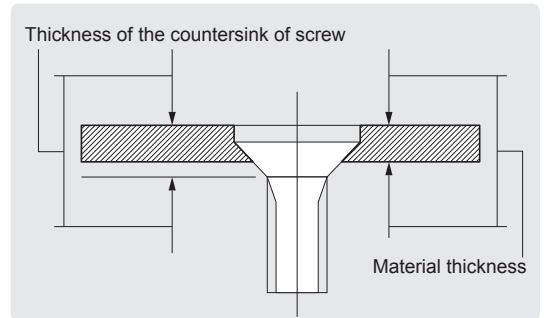

Fig.01
- Slightly deepen the head depth size to allow full insertion. (See Fig.01)